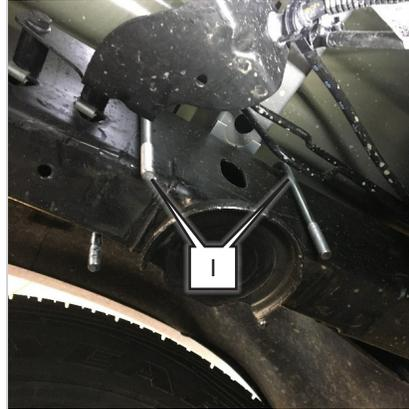

Fig. 20
1. Place U-bolts (I) over the frame as pictured on both sides of the vehicle (Fig. 20).